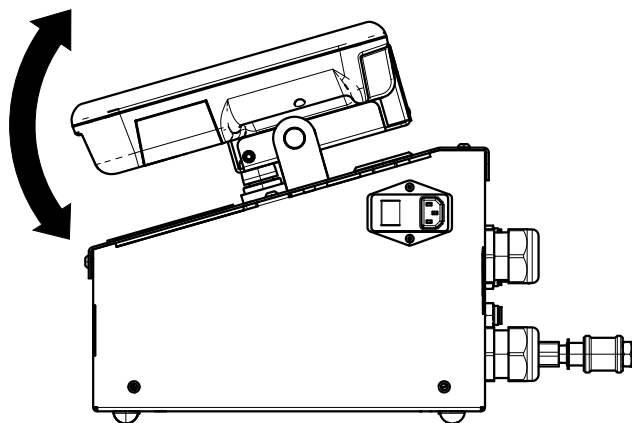

FIG. 24
2. Adjust angle of ADM for better viewing. See FIG. 24.